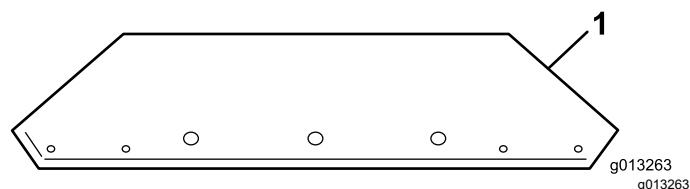

Figure 13
1. Remove the hopper extensions from the box and identify the front and the rear (Figure 13 and Figure 14).